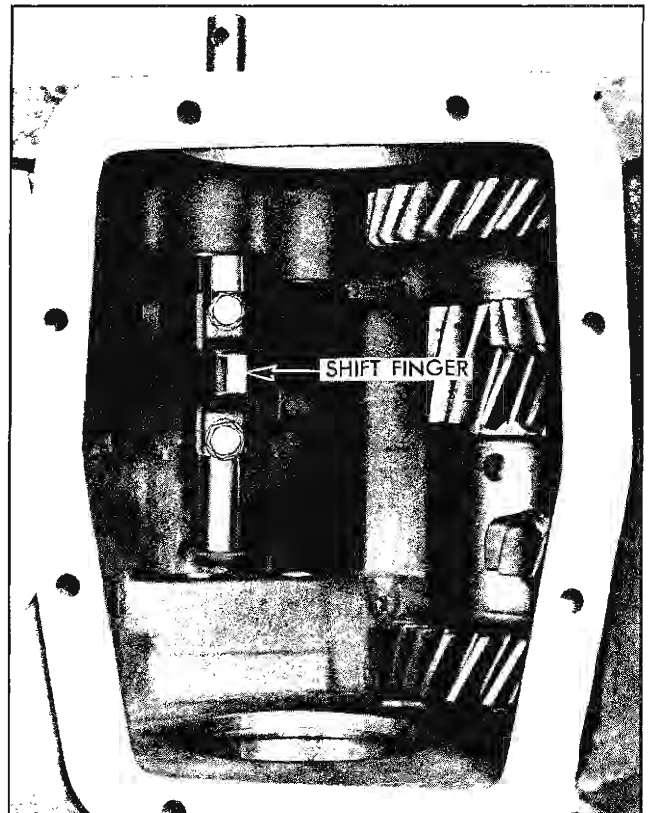

Fig. 7-23 Transmission Shift Finger
14. Remove two cap screws and lockwasher securing shift finger (Fig. 7-23) to manual shift shaft and pull shaft from case.